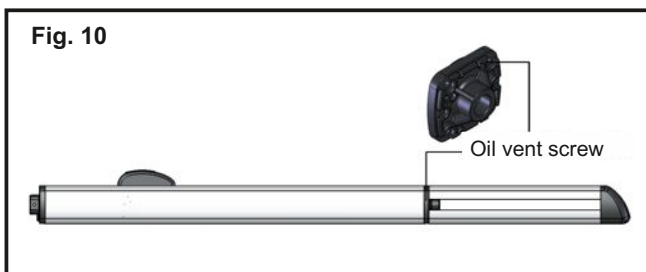

Fig. 10
D) Release the hydraulic operator; (Fig. 10)
F) Re-lock the hydraulic operator; (Fig. 10)
- remove the vent screw (Fig. 10).